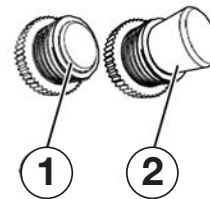

Figure 8 - Breakers
4. Make sure the circuit breakers are properly set (see Figure 8).